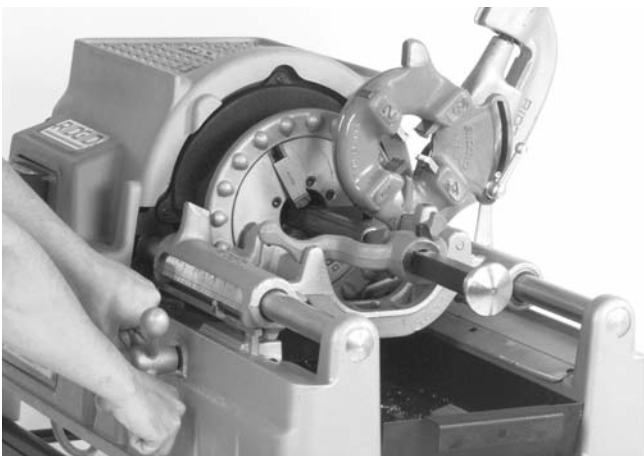

Figure 6 – Reaming with 341 Reamer
4. Position reamer into pipe and complete reaming by exerting pressure on handwheel. *(Figure 6)*